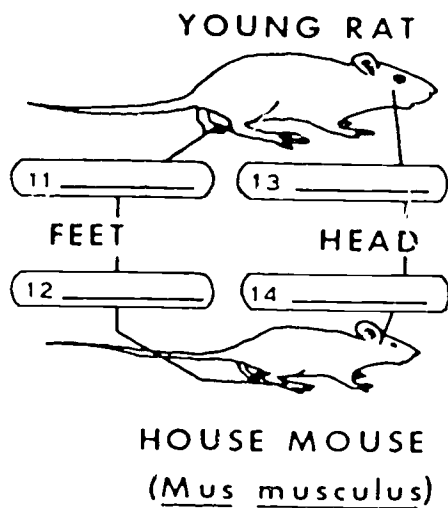

Figure 1-2. Comparison of rodent physical characteristics (objective A02, exercise 1).
1. Using figure 1-2 and table 1-1, place in the numbered spaces descriptive statements which distinguish these murine rodents from one another.